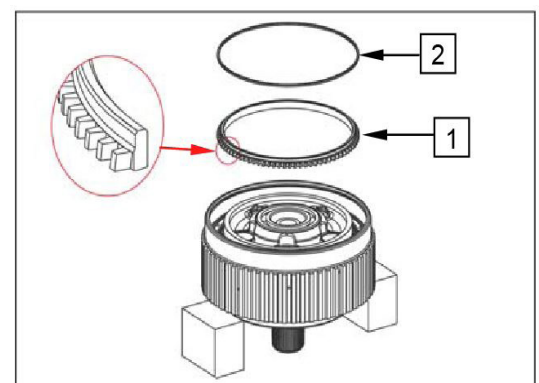

Figure 677
**Installation position of thrust ring. See Figure 677!**